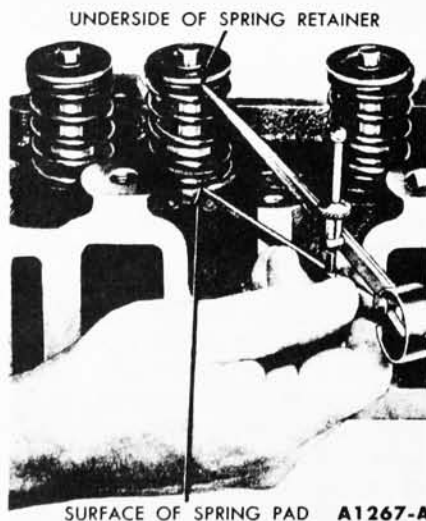

FIG. 49—Valve Spring Assembled Height
4. Measure the assembled height of the valve spring from the surface of the cylinder head spring pad to the underside of the spring retainer with dividers (Fig. 49). Check the dividers against a scale. If the assem-